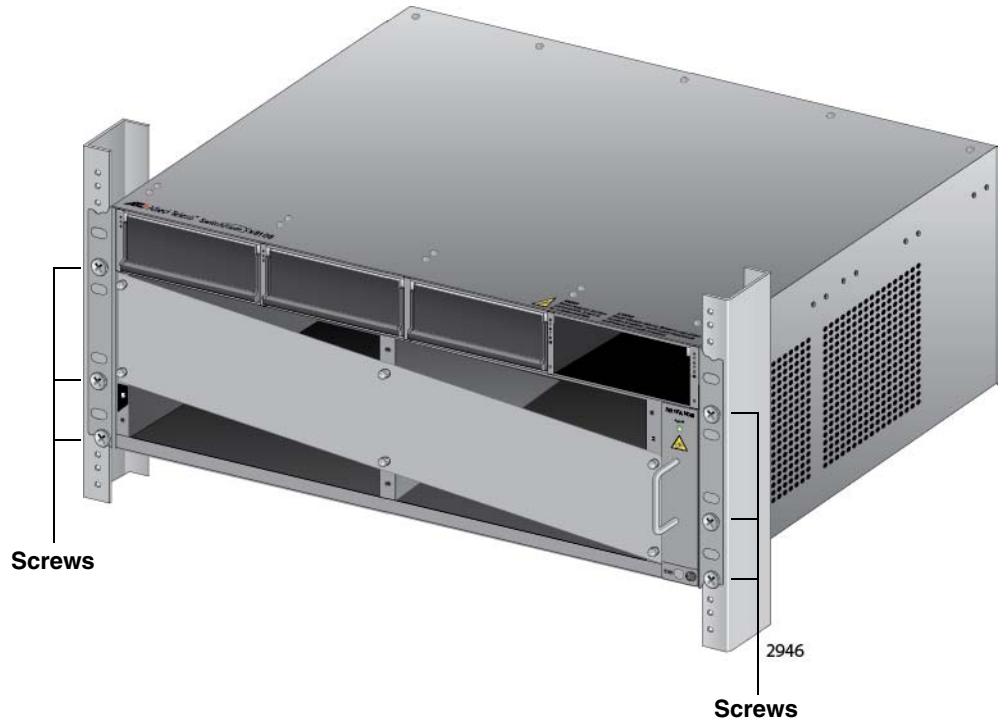

Figure 44. Tightening the Rack Mount Screws
5. Tighten all six screws shown in Figure 44 on page 119 to secure the chassis to the equipment rack, Allied Telesis recommends tightening the screws to 10 inch-lbs.